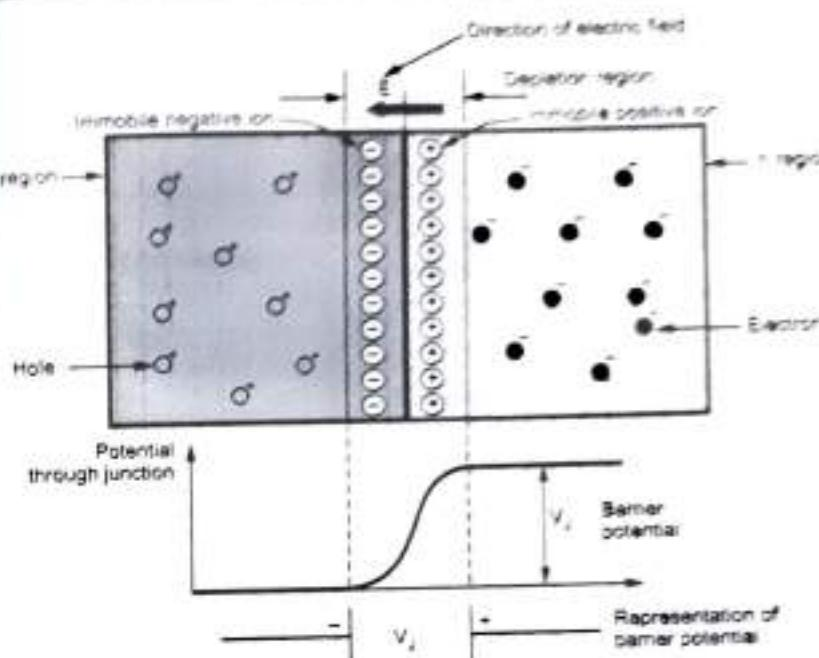

Fig. Q.19.1 Formation of depletion region in a p-n junction
- Thus there exists a wall near the junction with negative immobile charge on p side and positive immobile charge on n side. There are no charge carriers in this region. The region is depleted of the charge carriers hence called depletion region, depletion layer or space charge region. The depletion region is shown in the Fig. Q.19.1 (Refer Fig. Q.19.1 on next page).